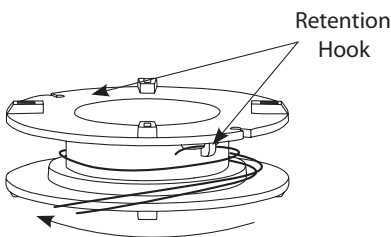

Fig.33
4. Wrap line 180° and wind extra line in the opposite direction of rotation of the head (Fig. 33).